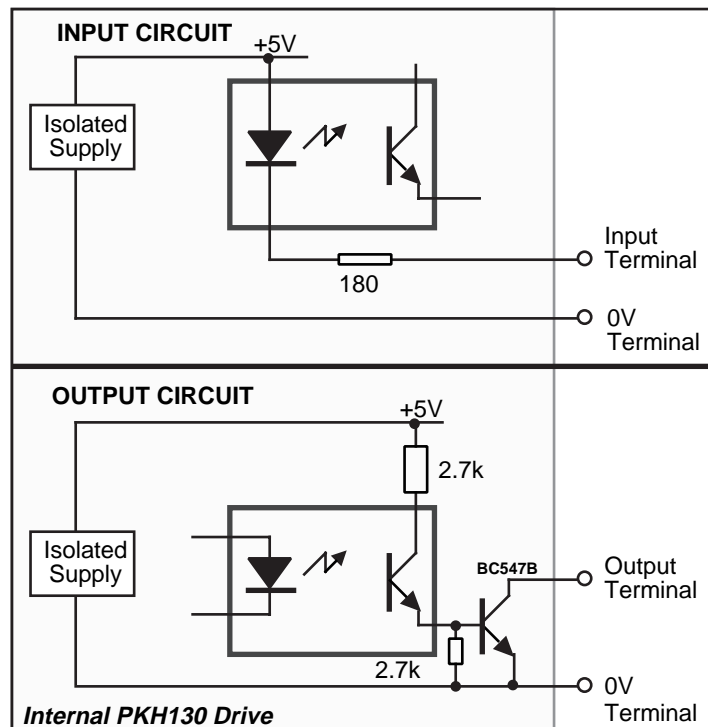
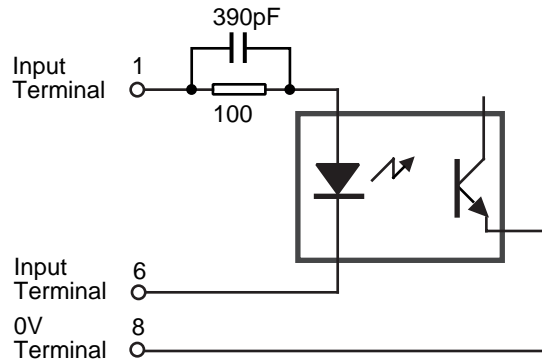

Figure 2-9. Typical Input and Output Circuits
Figure 2-10. Input Circuit with Link 1 in Position B
Typical input and output circuits are shown in Figure 2-9. The input signal source must be capable of sinking approximately 15mA at the logic 0 level.
This input is either not connected (NC) or is a positive step input. Its use is determined by the setting of link (jumper) LK1. When LK1 is set to position 'A' input pin 1 is not connected and the input configuration shown in Figure 2-9 describes the input circuit of step input pin 6. When LK1 is set to position 'B' inputs 1 and 6 are re-configured, as shown in Figure 2-10. With this circuit arrangement you can link pin 6 to 0V and pin 1 can be used as a single ended step input or you can arrange to drive pins 1 and 6 as a differential input.